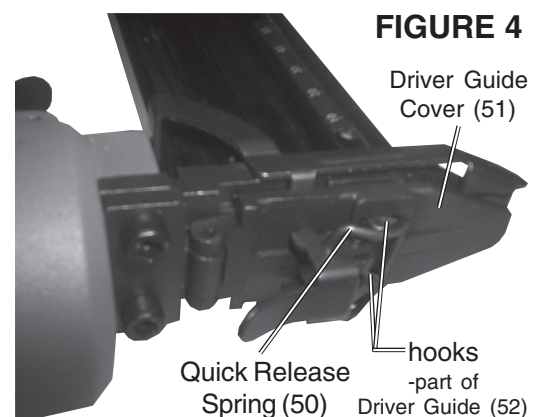

FIGURE 4
5. Lightly oil the **Drive Pin (46)**. Replace the **Driver Guide Cover (51)** and latch the **Quick Release Spring (50)** up against **both** hooks, making sure it is securely in place and the **Quick Release Lever (49)** is pressed down - see *Figure 4*.
8. Press the **Safety (56)** of the Nailer against an appropriate piece of scrap wood.